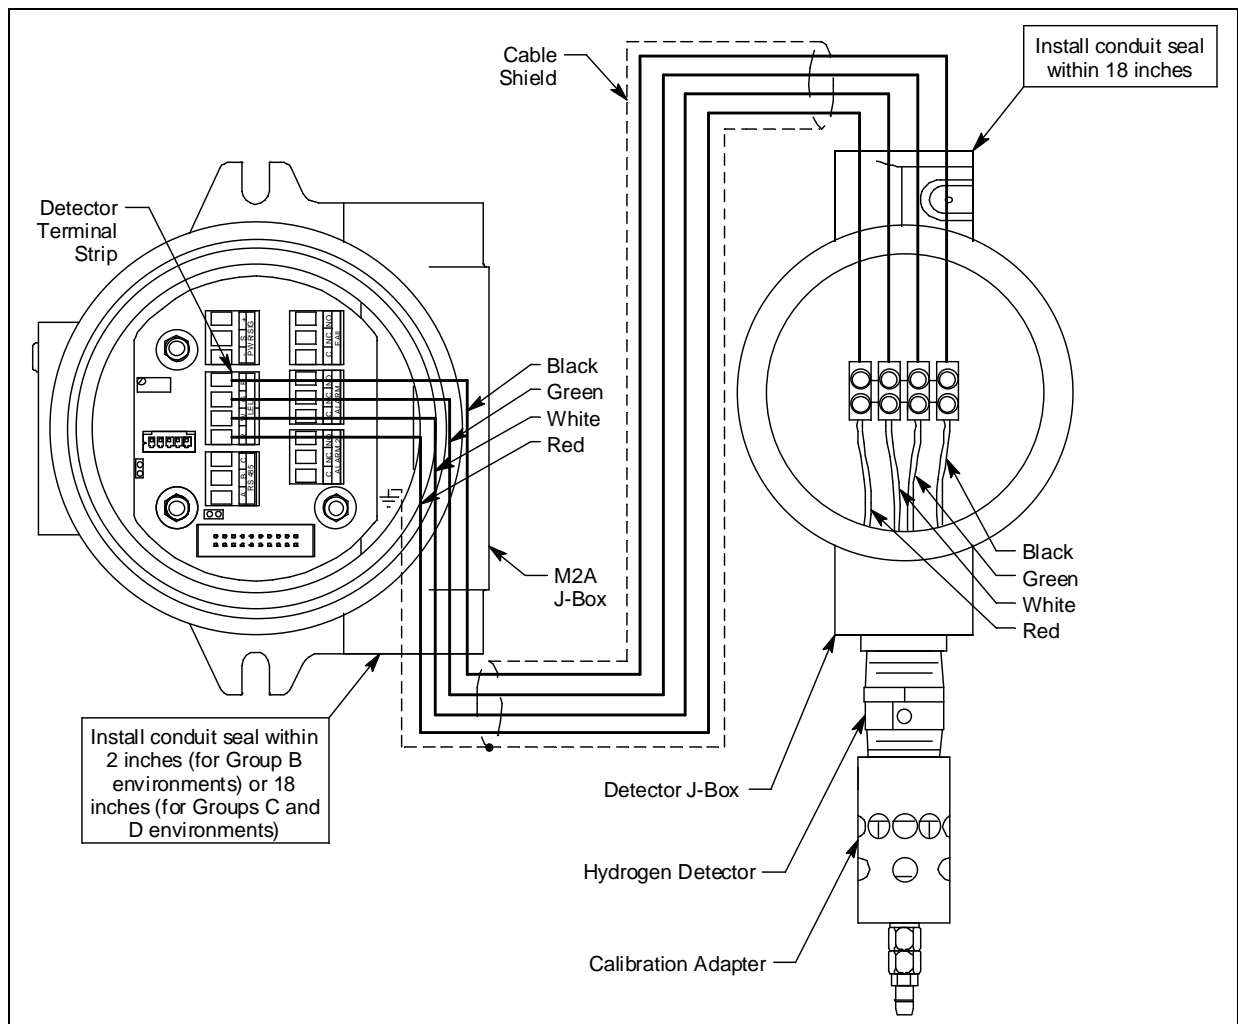

Figure 7:Wiring the Detector to the M2A
7. To maintain the explosion proof classification of the junction boxes, conduit seals must be installed as shown in Figure 7. Adhere to your local electrical code when installing the conduit seal.